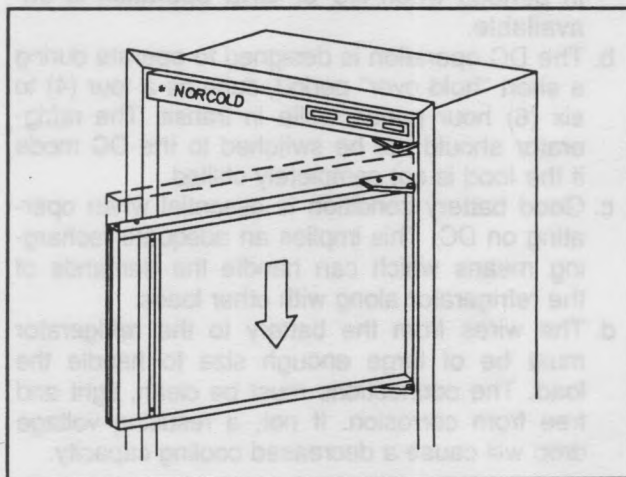

Figure 17
3. Remove the upper door by opening the door slightly and pulling the bottom of the door away from the refrigerator. Allow enough room to slide the door down off of the upper hinge pin shoulder. (See Figure 17)